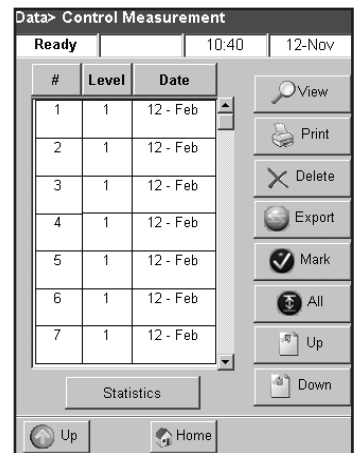

Figure E-5: Data > Control Measurement screen
3. In the Data > Control Measurement screen (Figure E-5), select the run (located on the left side of the screen) that you want to review.
4. Tap the applicable button on the right (Figure E-5):